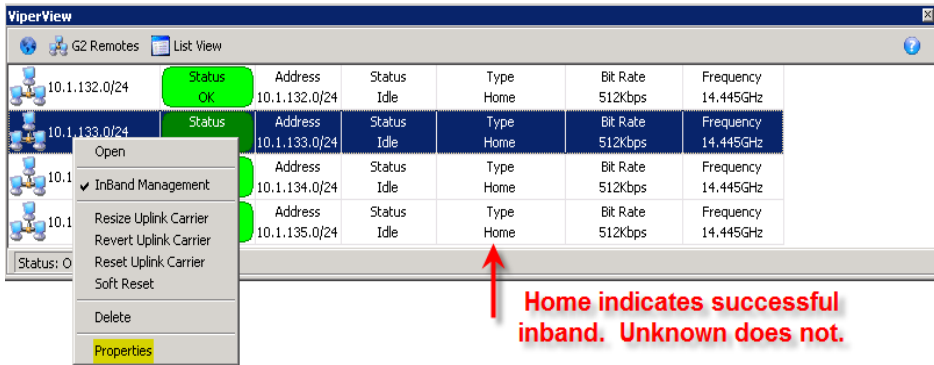

Figure 3-26 InBanding a Remote
3. Select the remote's modulator, open the Subnet View, as shown in figure 3-26, and refresh the device view to verify that the VMS has picked up the home state.